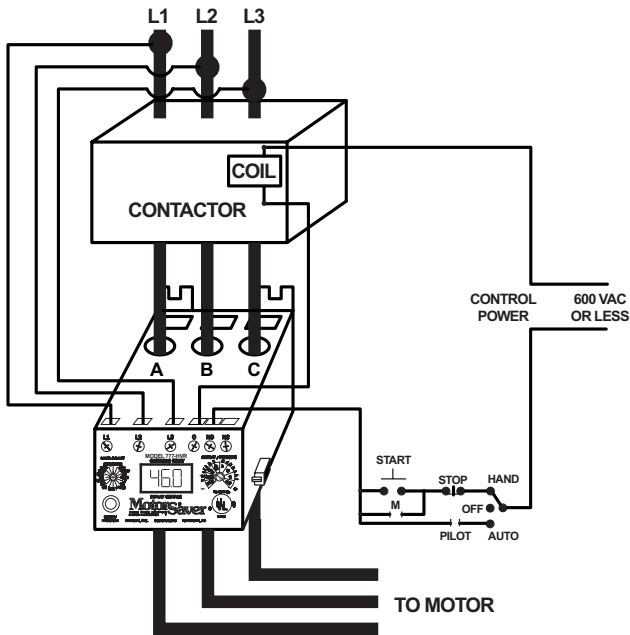

FIGURE NO. 1: Typical Wiring Diagram
- Insert the motor conductors through the round holes marked "A", "B", and "C." Terminate the conductors at the line or load side of the magnetic contactor. **Note: For motors with full load amps less than 25 Amps**, loop the conductors through the holes marked "A", "B", and "C" according to Table No. 1 below. The rectangular holes behind the holes marked "A", "B" and "C" are provided for wire looping. (see Figure No. 1).
- Connect the three-phase power from the line side of the contactor to "L1", "L2" and "L3". First insert a #14 - #18 AWG wire into the top of the terminal marked L1 and tighten the screw on the front of the overload relay. Then, connect the other end of the wire to the line side of the contactor. Repeat these two steps for L2 and L3 (See Figure No. 1).
- Connect the output relay to the circuitry to be controlled (See Figure No. 1). To control a motor, connect the normally open contact in series with the magnetic coil of the motor starter as shown. To sound an alarm, connect the normally closed contact in series with the alarm (not shown).